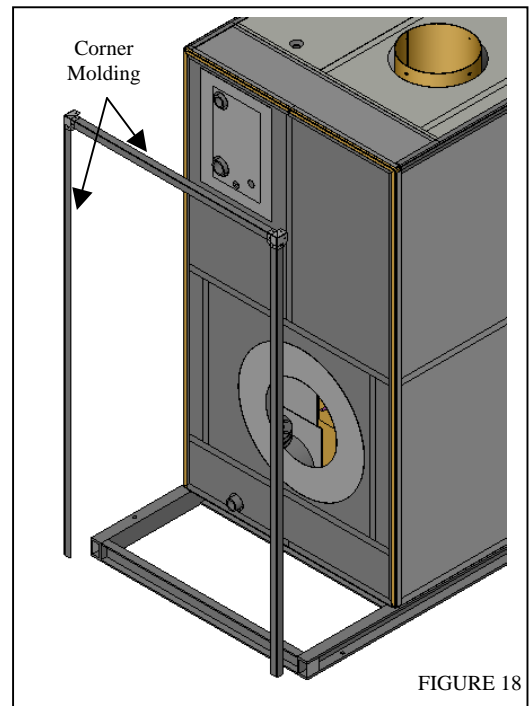

FIGURE 18
- 5.6 Now install all corner moldings. See figure 18. Use the same size screws that were used to install the jacket panels.